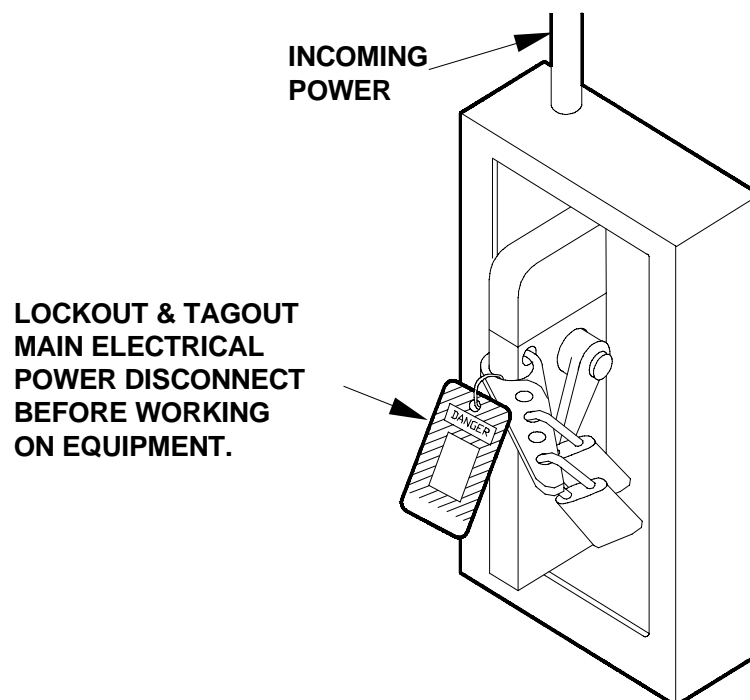

Figure 4-1: Lockout & Tagout
2. Turn off all electrical power sources including the main power disconnect switch, and perform your company's Lockout/Tagout safety procedures for safe working conditions before beginning any maintenance or repairs. (See Figure 4-1).